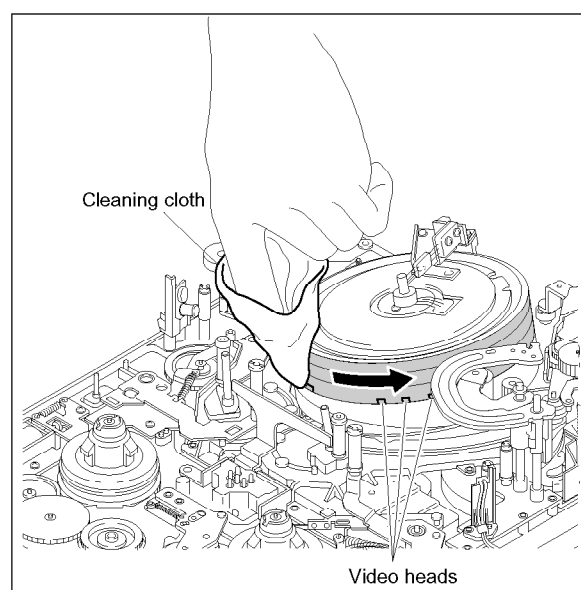

Figure 1. Cleaning of Drum
4. Clean the outer circumference and video heads of the upper drum (shaded portions in Figure 1). (Refer to Section 4-2-3 for the cleaning method.)